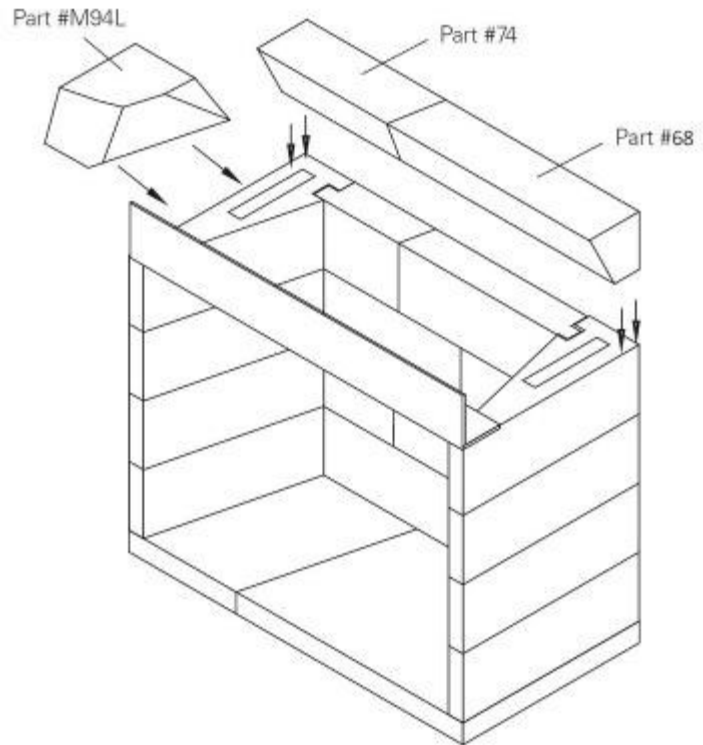

FIGURE 20
6. The fireplaces come with an eight-inch (8") thick damper beam assembly, a six (6) piece component group that is to be assembled on top of the firebox's sidewalls and backwall.
The damper beam assembly consists of four (4) long lintel pieces and two (2) short damper beam side pieces. The damper side pieces are designed to sit on the firebox side wall between the front lintel and the back lintel. Each of the damper side pieces is designed specifically for its own side of the unit. When properly set, each damper side piece fits flush with the outside face of the firebox sidewall so that its interior bottom edge aligns with the interior angle of the firebox side wall that it sits on. **(Figure 20)**